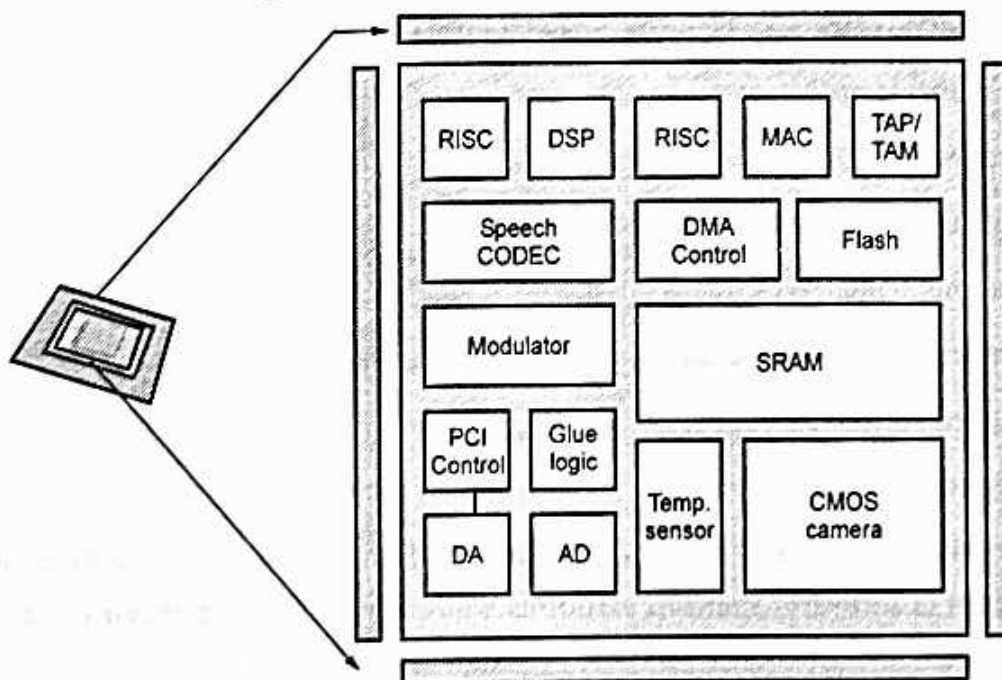

Fig. 1.5.1 : Block diagram of SoC
- Fig. 1.5.1 shows block diagram of SoC.